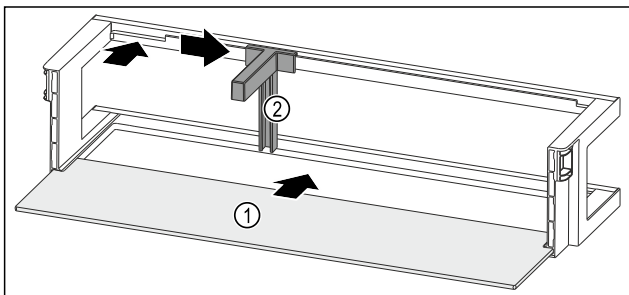

Fig. 125 Door rack with shelf
- Push the shelf Fig. 125 (1) into the side recesses.
- Insert the bottle holder Fig. 125 (2) in the recess.
- Push the bottle holder Fig. 125 (2) to the desired position to the side.